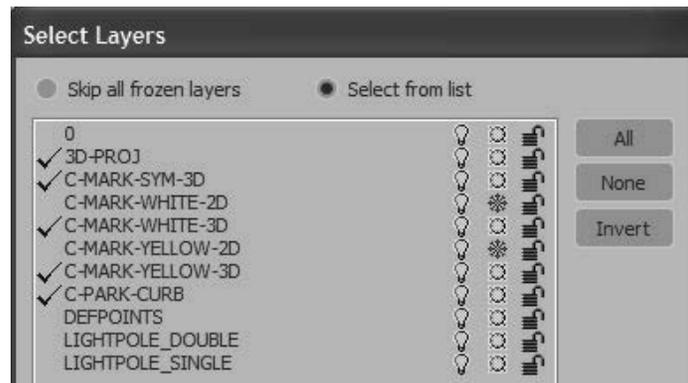

Figure 3–38
3. The File Link Settings: DWG Files dialog box opens. In the **Advanced** tab, click **Select Layers to include...**. Clear the 2D layers (**C-MARK-WHITE-2D** and **C-MARK-YELLOW-2D**), and the two **LIGHTPOLE** layers, as shown in Figure 3–38.